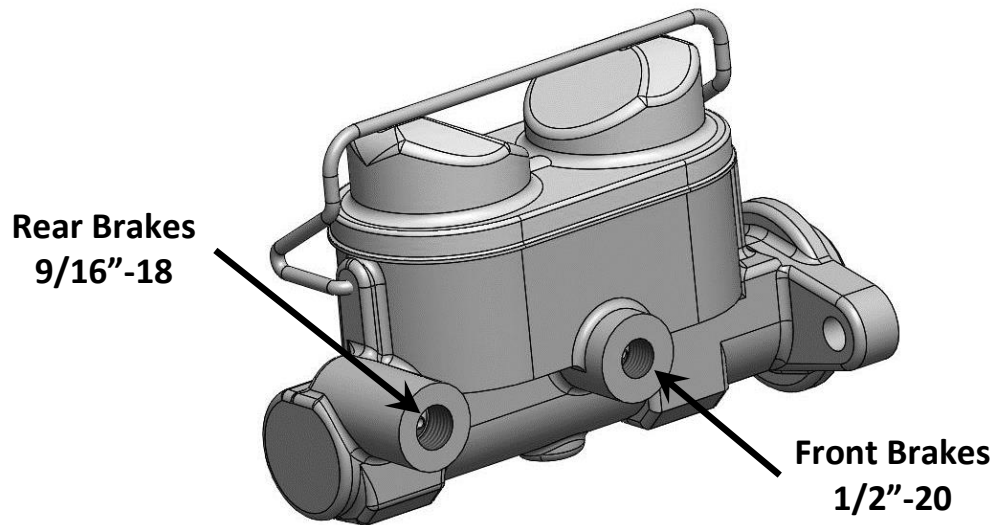

Figure 10 – Brake Line Routing
10. With the entire booster/master combo installed, the master cylinder can be plumbed into the vehicle. Figure 10 below shows proper front and rear hookups for the brake lines.